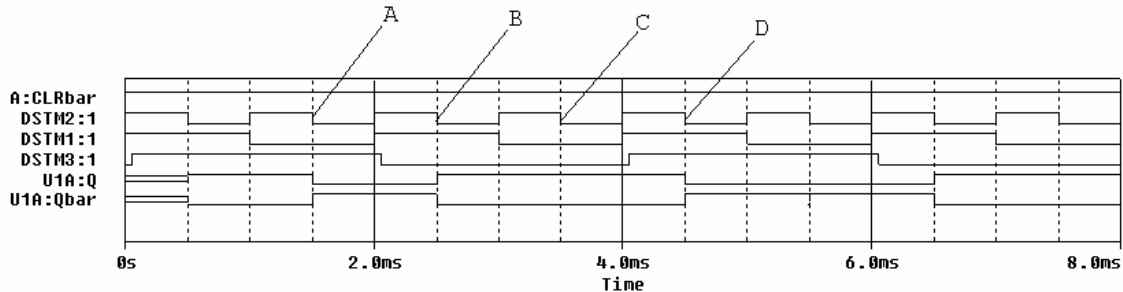

Figure S-1
- 2) Show that the flip flop is giving the correct output at the clock cycles (A, B, C and D) indicated on the timing diagram in figure S-1. DSTM2 is the clock signal, DSTM1 is J, and DSTM3 is K. Show how the truth table you found for the actual flip flop is consistent with the timing diagram at those four points. (6 pt)